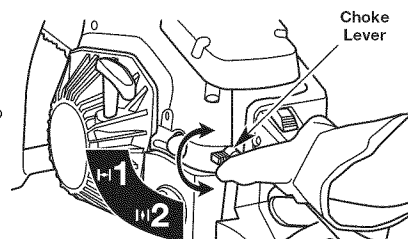

Fig. 8
3. Move the choke lever to **Position 1** (Fig. 8). This will lock the throttle into the wide open position.
6. **Do not touch the throttle control trigger.** Move the choke lever to **Position 2** (Fig. 8).